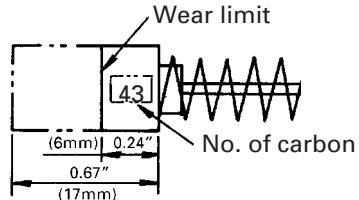

Fig. 8
## 2. Inspecting the carbon brushes (Fig. 8)
**NOTE:** Use HITACHI carbon brush No. indicated in Fig. 8.